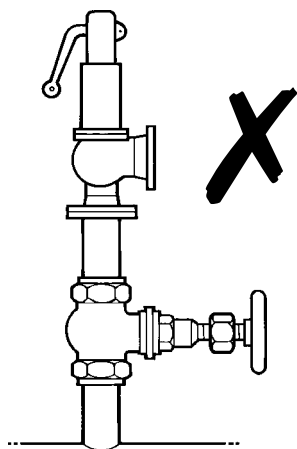

Fig 2
4.3 There should be no intervening valve or fitting i.e. it should not be possible to isolate safety valve. (Fig. 2)